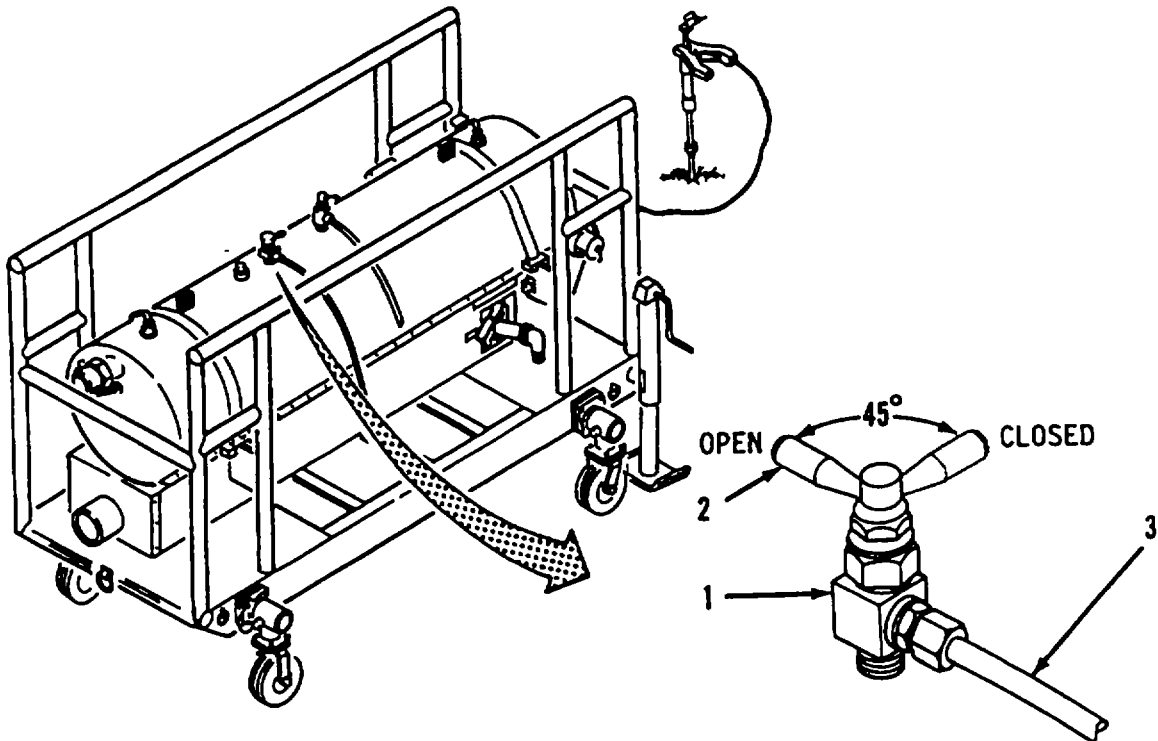

Figure 2-15. Tank Filling Procedures - Purge Air.
(4) Purge air from the tank while filling as follows: (Refer to figure 2-15).